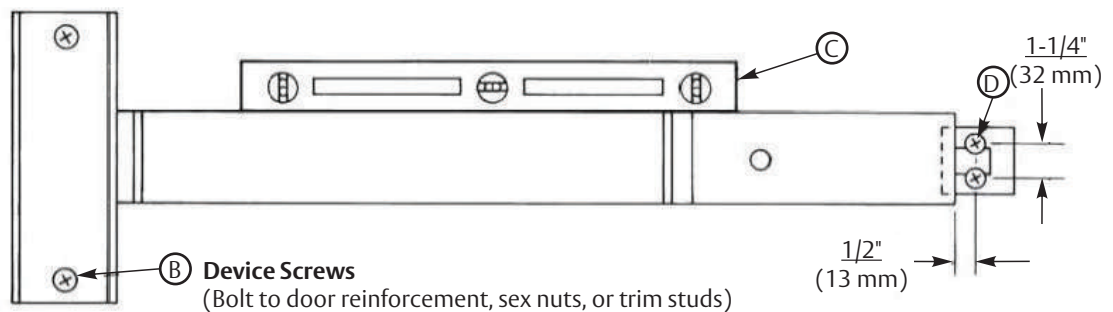

Figure 13
- B. Seat bar in place. Fasten device head (2 PRHMS or SNB). (Figure 13)